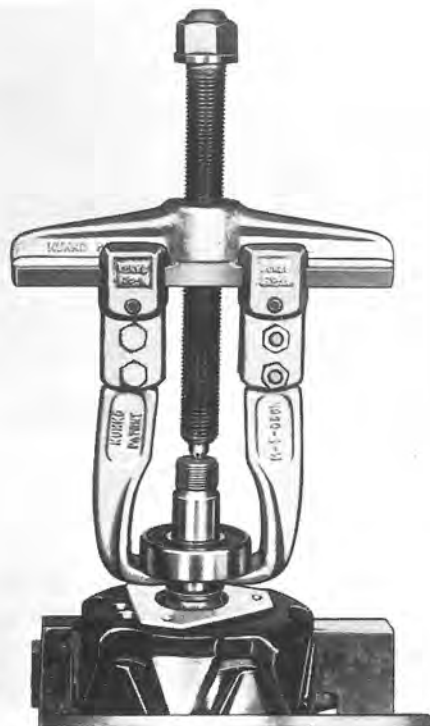

Fig. 3-16 Removing bearing
2. Pull the bearing off with a claw puller, see Fig. 3-16.